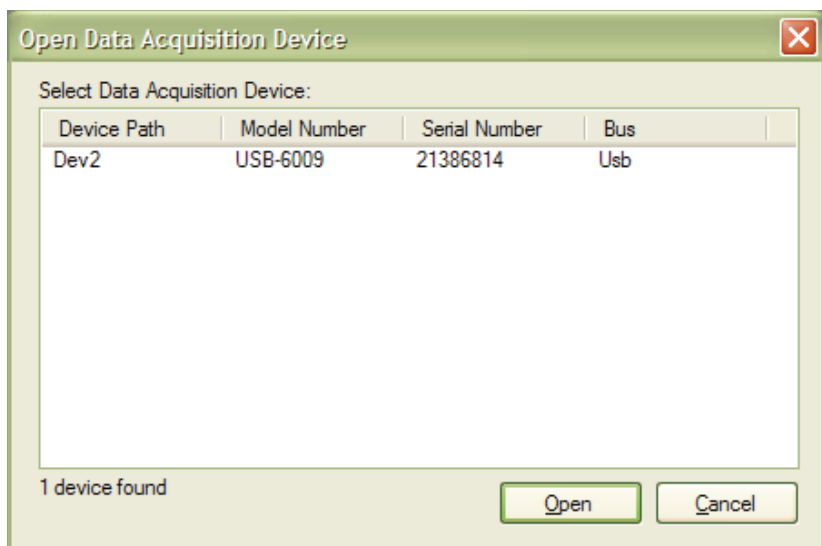

Figure 6. Open Data Acquisition Device Window
- All USB-connected devices appear in the window shown in **Figure 6**.